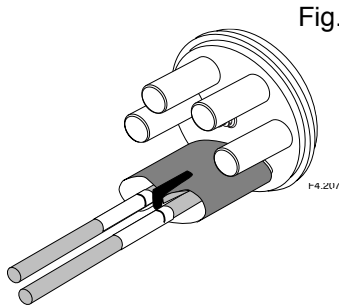

Fig. 16
7. Install the branch-off clip as shown. The clip's base must touch the tube. (Figure 16)